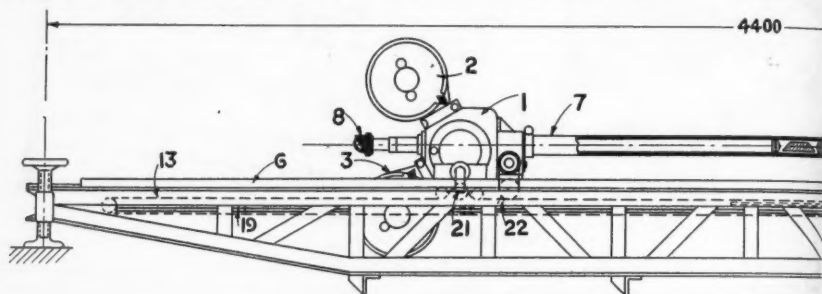

Fig. 3—Drawing of tube camera.
the image of this body is projected on to the film at B'-B". If the object is moved in the direction of the arrow from C' to C", then the image will shift from D' to D". When a moving object is to be photographed on the film, therefore, the film must be moved in the opposite direction at a corresponding rate, if a perfectly sharp image is to be obtained. Since the instrument is specifically intended for photographing the inside of hollow bodies of small diameter, it is necessary to accomplish the purpose without introducing the camera into the work. The arrangement adopted is shown in Fig. 3. A 3.25m. (10½ ft.) tube (7) equipped with an objective head is connected to the camera (1), and this tube is introduced into the body to be examined. By this arrangement, it becomes possible to inspect tubes and hollow shafts with bores down to 75 mm. (3 in.) in